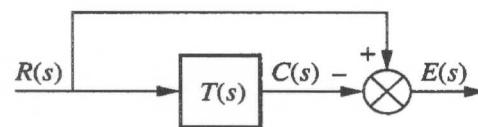

Figure 2
3.3 (5 points) Find the steady-state error for the system in Figure 2, if $T(s) = 5/(s^2+7s+10)$, and the input is a unit step.